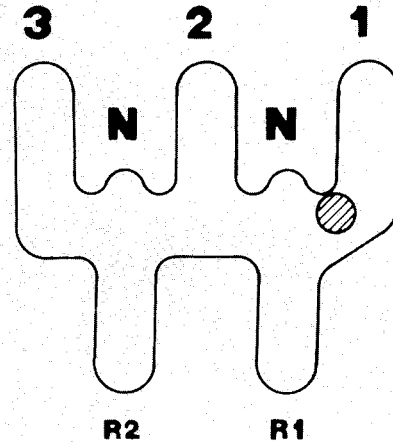

Figure 7
3. Move wheel drive control lever onto the hump between N and 1 (Fig. 7). Hold wheel drive control lever in this position — on hump.